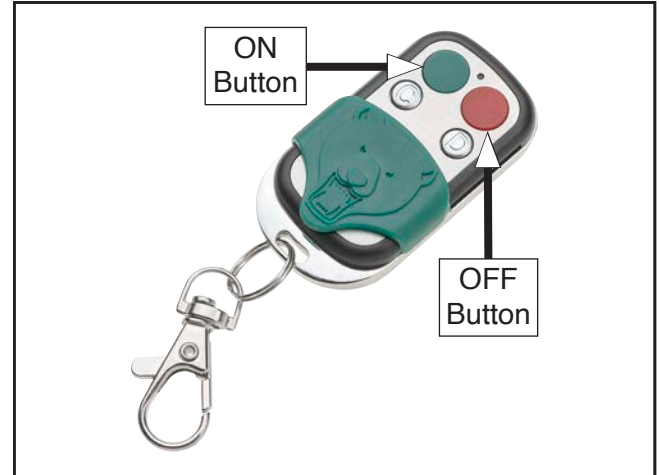

Figure 27. Location of remote control buttons.
6. Press green remote button (see **Figure 27**) to turn machine **ON**. Verify motor starts up and runs smoothly without any problems or unusual noises.